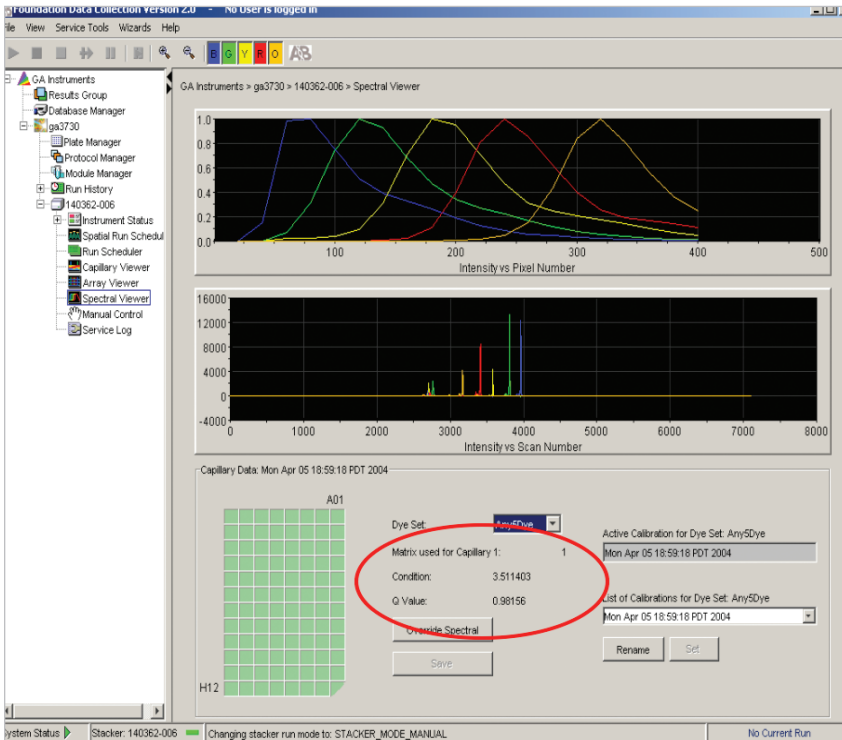

Figure 6. Spectral run of DS-02 Matrix Standard, using the Any5Dye dye set.
- a. Choose the Any5Dye dye set and click on any well on the plate to display the condition number and quality score for a given capillary (Figure 6). The capillary condition number for each capillary may also be found in the Spectral Calibration Run Log [E://Applied Biosystems/UDC/Data Collection/ Data/ga3730/ Instrument Number/ SpectralCalTmpFiles/ Any5Dye/SpectralCalResult-Run].